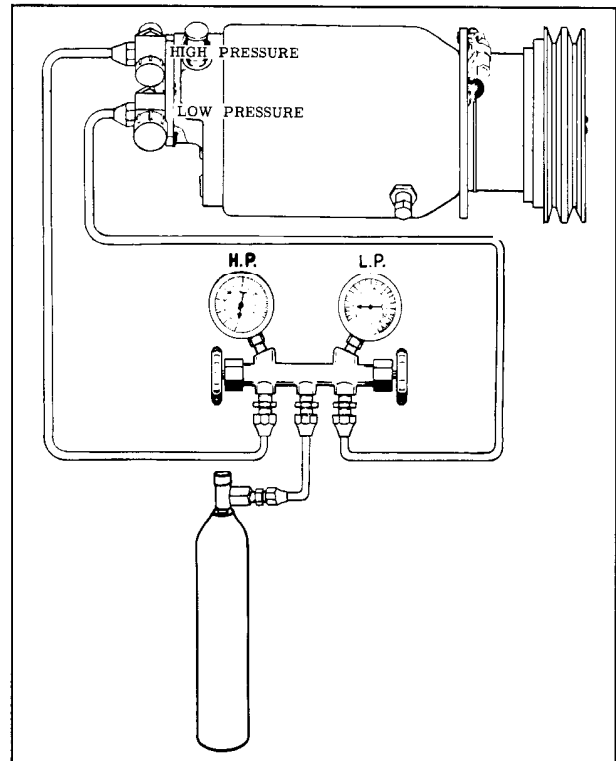

Fig. 14-37 Adding Refrigerant (Partial Charge)
3. Remove both compressor gauge outlet fitting caps and install the gauge hoses on the fittings. (Fig. 14-37)